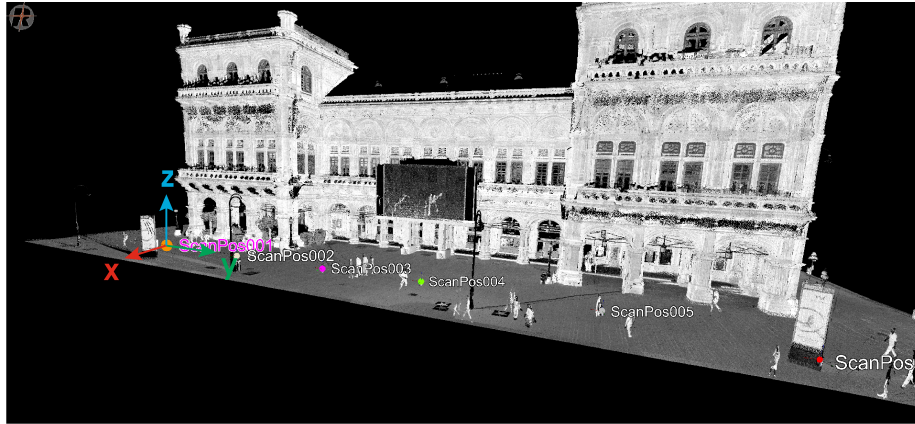

Figure 2: PRCS (Project Coordinate System)
**PRCS** (Project Coordinate System): A number of scan positions and the data acquired therein make up a scan project (see Figure 2). The center of the project's coordinate system (PRCS) usually coincides horizontally with the center of the first scan position. The axes of PRCS are strictly pointing to east (x-axis, red), north (y-axis, green) and up (z-axis, blue), respectively.